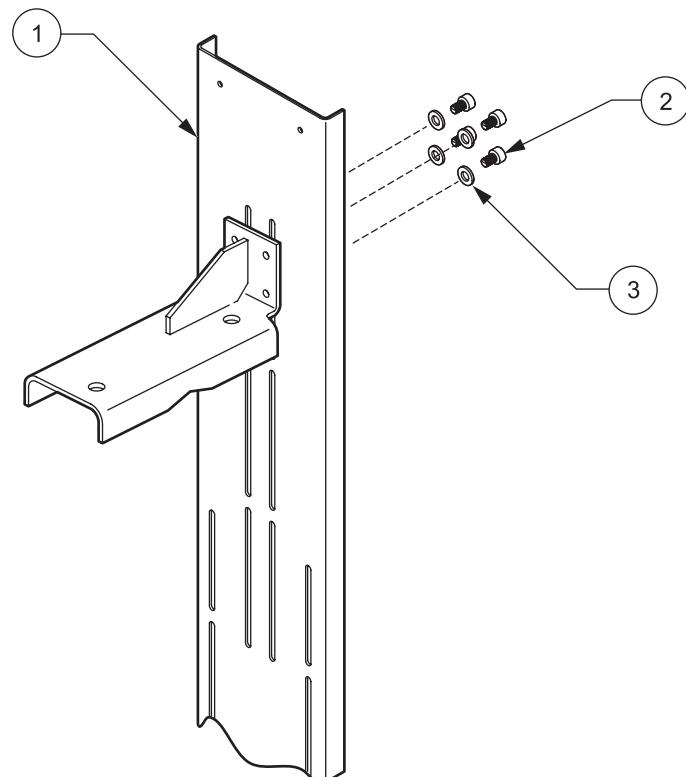

Figure 7 Installation of the angle bracket on the mounting rail
2. Loosely mount the angle bracket to the mounting rail using four M5 hex socket head screws and spring washers (see Figure 7 on page 8).